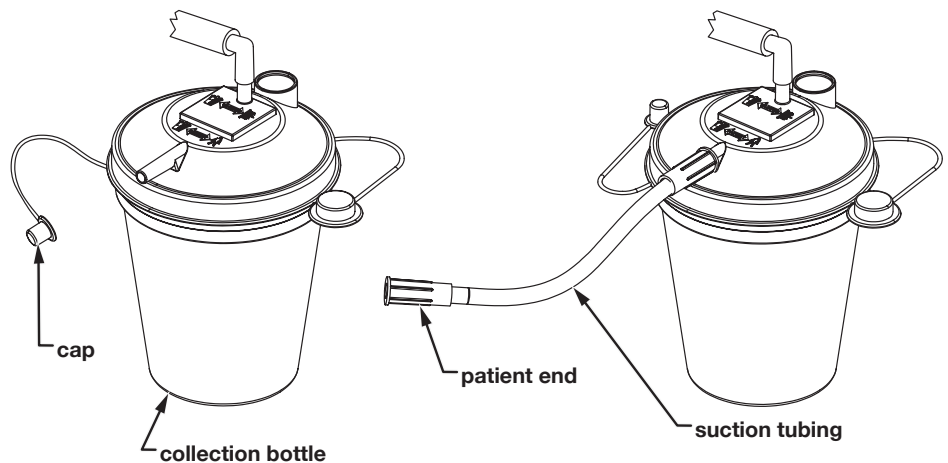

Figure 5
4. Position the suction tubing appropriately for patient and begin suction (Figure 5).